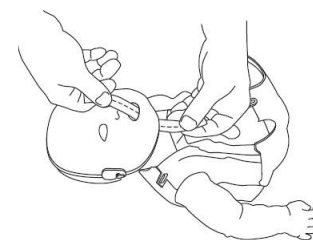

Figure 4
6. Grasp the Lung-Bag and finish pulling it through the neck of the manikin (Figure 4).